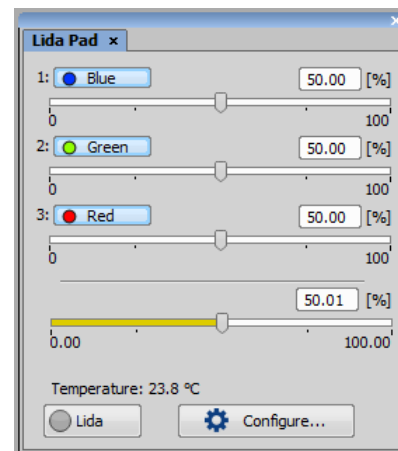

Figure 7. NIS Elements Lida control pad
7. Go to View> Acquisition Controls > Lida Pad to display the light engine control settings (Figure 7).
[3] Checking “Show temperature” will display the internal operating temperature of the LIDA on the LIDA Control Pad (Figure 7).